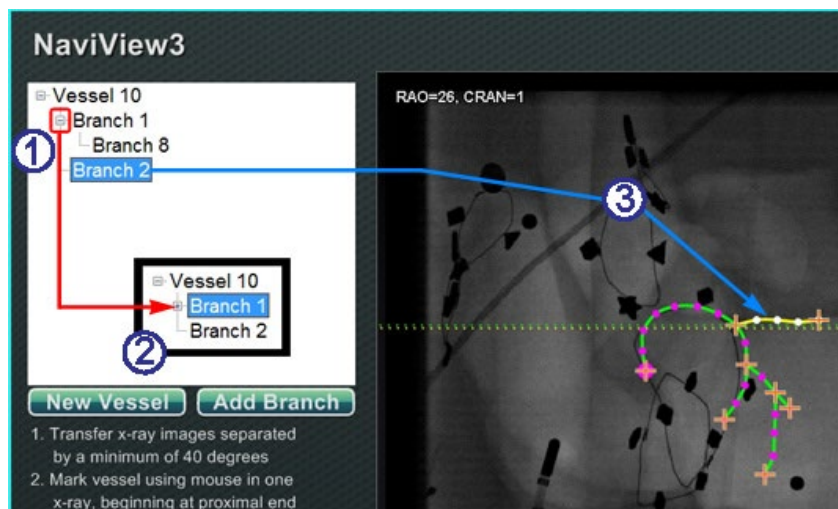

Figure 134. Directory tree tracks vessels and branches
Following the process outlined above, the user can create more branches off existing branches and trunks (**Figure 134**). The user can create as many vessels and branches as desired.
Add More Branches Guide (Figure 134)
- ① As the user adds vessels and branches, the directory tree grows. The indentation of each branch name indicates the branch level. So, a branch name indented twice is the branch of a branch.
- ② The user can expand and collapse the vessel and branch names as branches are added beneath them. For example, to collapse Vessel 1 in **Figure 134**, click the minus (-) sign. Only the name Vessel 1 will display. The user can also collapse Branch 1. The user can expand either group by clicking the plus (+) sign.
- ③ Click a vessel or branch name to select that vessel or branch. The name is highlighted with a bright blue rectangle, and the drawing is highlighted in the selected mode colors: yellow and white.